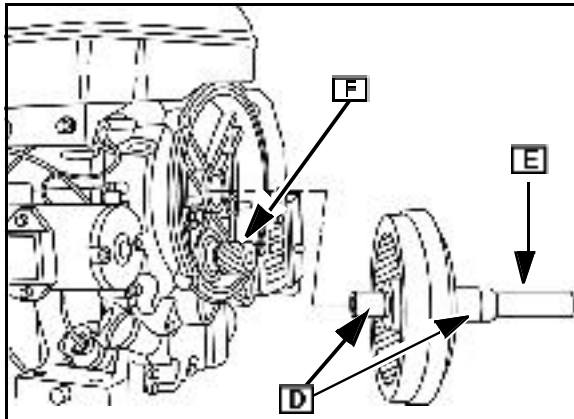

Fig. 23
5. Inspect crankshaft gear teeth ([F] Fig. 23) for wear, pitting or scoring. Replace if necessary.